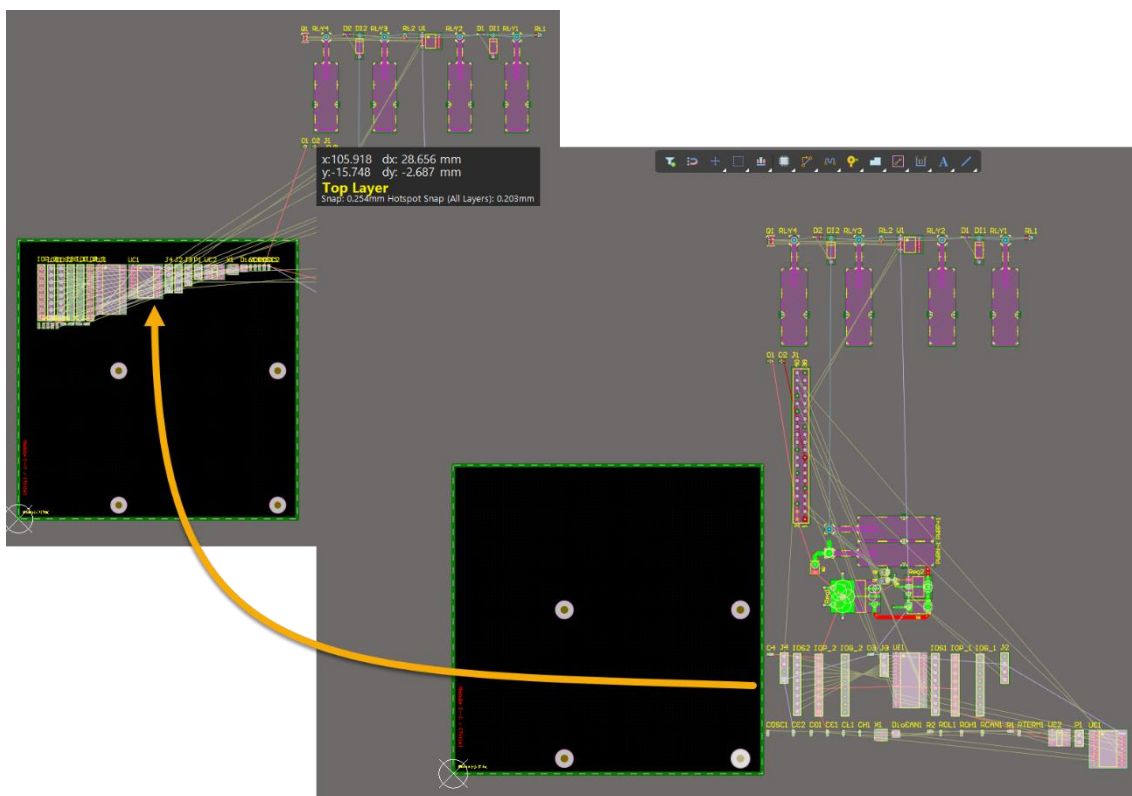

Figure 5. Component Placement within the board area
22. Select a Group of components in the design by drawing a rectangle around them, Figure 5.
- b) Compare your result with Figure 5 below. This illustrates how you can get any selected group of components within a specific area of your board to begin placement.